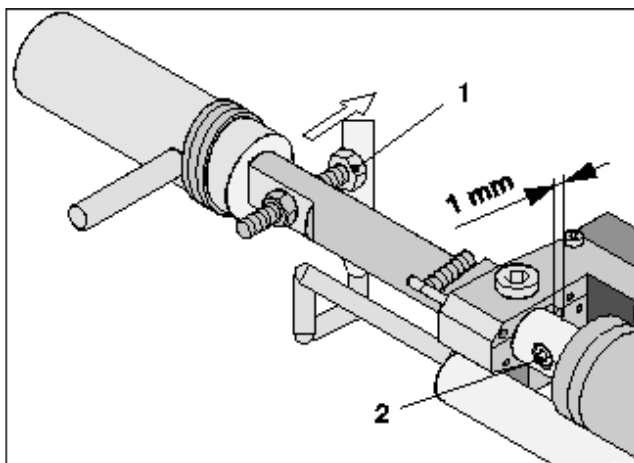
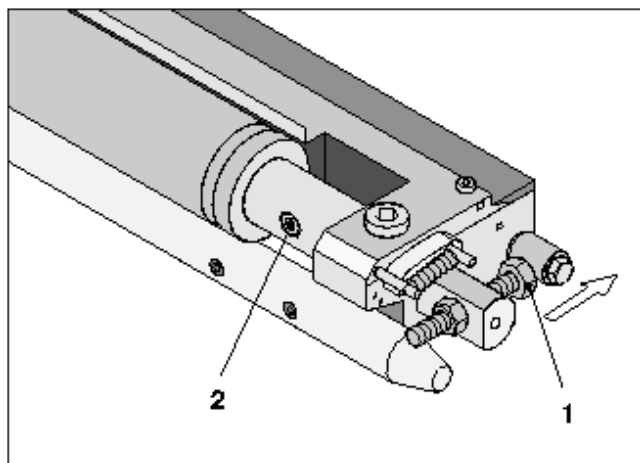

Fig. 17 Blanket washup device D.S.
Fig. 18 Blanket washup device O.S.
3. Slacken the outer stop screws on D.S. and O.S. (Fig. 17 /1, 18 /1) fully.
7. Correct with grub screw on D.S. and O.S. (Fig. 17 /2, 18 /2).
The grub screws (Fig. 17 /2, 18 /2) are pre-adjusted such that there is still a play of **1 mm** in the boreholes of the bearing plates on D.S. and O.S.
You must perform a correction at the grub screws as shown in Fig. 17 /2 and Fig. 18 /2 if you can not obtain the pressing strip width of 4 ± 1 mm via the outer contact screws.